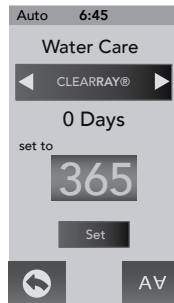

Figure 12.7c
1. From the “Water Care” Menu you can to set the CLEARRAY UV bulb timer, Figure 12.7c.
2. Tap and scroll the days timer (365) to change the days in 10-day increments. The range is from OFF to 365 days.
A programmable “Water Refresh” reminder can be set to remind you when to drain and refill the spa. Tap  (Figure 12.7c) until you reach the “Water Refresh” tab to enter the Programming Menu.